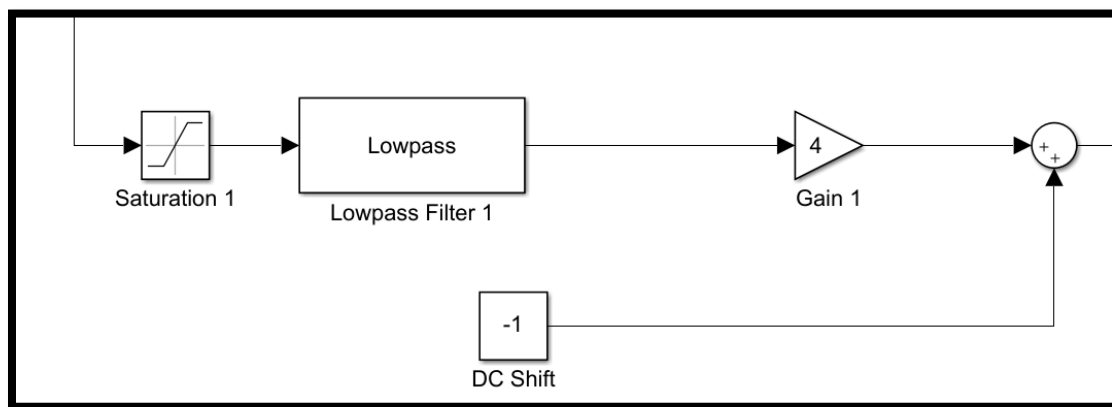

Fig. 5. Modelling the ideal envelope detector with Rectifier.
- 1- Build the Demodulator as illustrated in Figure 5.